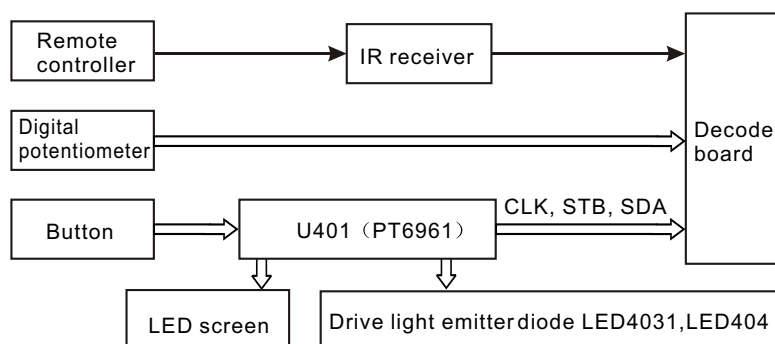

Figure 7.1.1.1 Panel control circuit block diagram
1. Panel control circuit block diagram is shown in the figure 7.1.1.1: